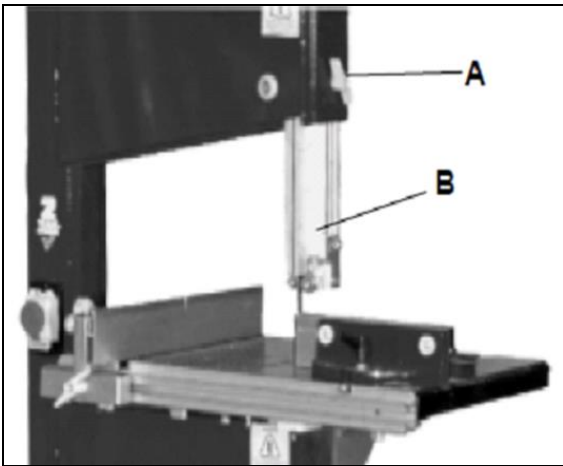

Fig 17
To adjust the cutting height release the winged nut (A, Fig 17) and move the upper blade guide and guard assembly (B).